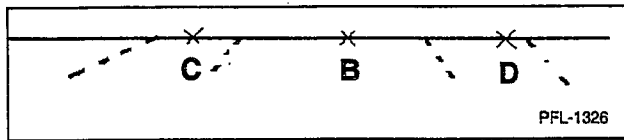

Figure 5
6. Locate three (3) marks C, B, and D. See Figure 5.